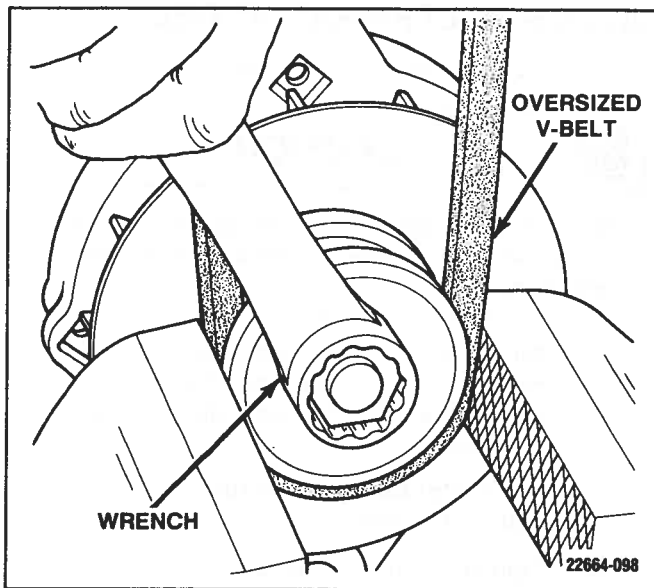

Figure 6-143. Installing Pulley And Fan Nut
8. Place an oversized V-belt around pulley and fasten pulley in a vise. (Figure 6-143)